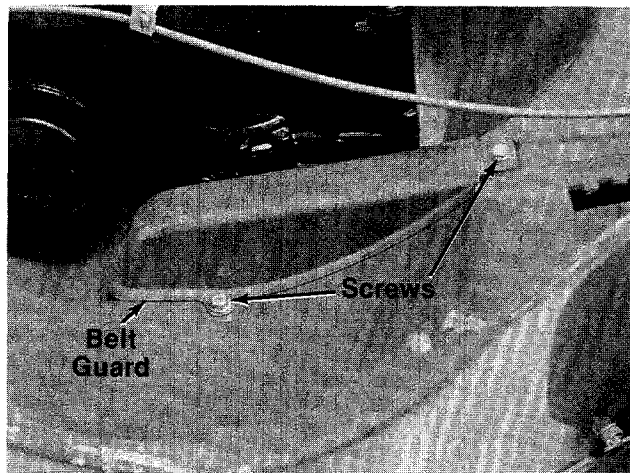

FIGURE 22.
3. Remove the two screws which hold the belt guard to the deck. See figure 22.